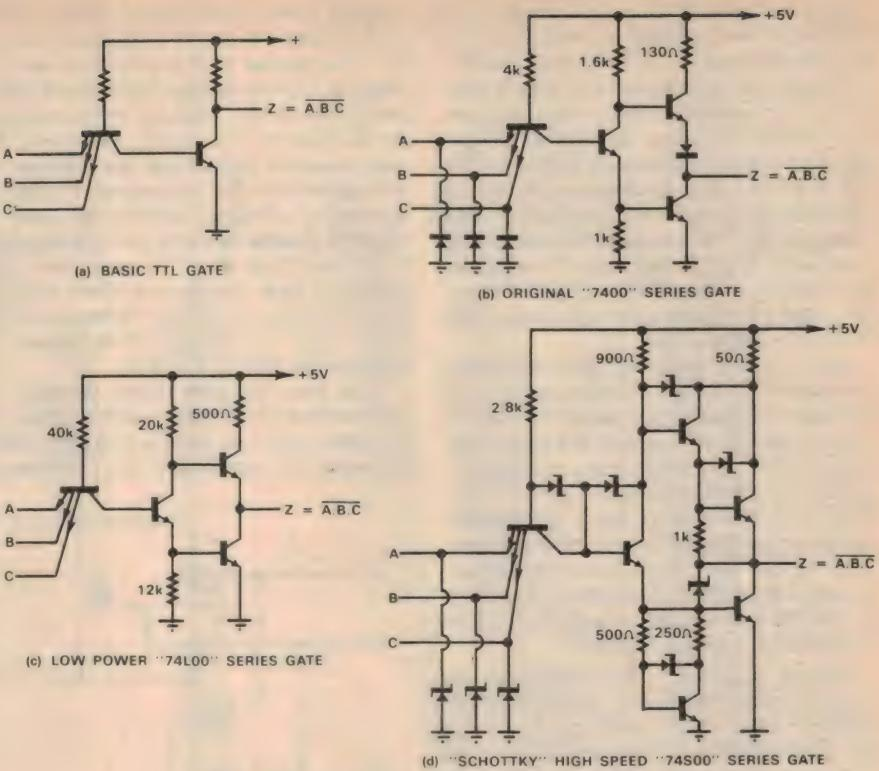

FIG. 2 : VARIETIES OF TRANSISTOR-TRANSISTOR LOGIC (TTL)
The basic TTL gate is shown in Fig. 2(a). It is virtually a further development of the second diode logic gate shown in Fig.
Practical TTL gates are a little more complicated than this, with additional transistors and other components to increase operating speed and give improved reliability. The first practical TTL devices to appear were the well-known "54/74" series, originated by Texas Instruments. The basic circuit for a 7400 series gate is shown in Fig. 2(b). If you compare it with the basic gate, you will see that the main difference is the addition of a pair of "totem-pole" output transistors to increase the operating speed and the output current capability. Clamp diodes are also added to the inputs, to prevent damage to the multi-emitter transistor from negative-going transients.
nated 74S00. Like the low-power series these were still based on the original TTL circuit, but here the various resistor values were made smaller to increase speed—at the expense of higher current. With 74S00 devices the transistors were also shunted with metal-semiconductor or "Schottky barrier" diodes as shown in Fig. 2(d), to prevent them from saturating. This obviated charge storage effects, and gave a further marked increase in speed.
"low-power TTL", or LPTTL, with the series designation 74L00. These were based on the same circuit configuration as standard TTL, but with the resistor values increased to reduce the current levels as shown in Fig. 2(c). This also reduced speed, but in many low power applications this was not important.
A basic CMOS gate which performs the NOR function if the high voltage level is regarded as logic true (1) is shown in Fig. 2(b), for you to compare with the gate just described. As you might expect from logic, it is basically a mirror image of the first gate, with the series and parallel pairing reversed.